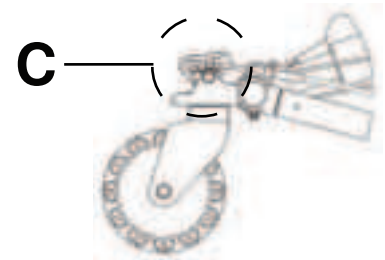

Figure 13 – Wheel lock and Steer-Lock off
To release a wheel lock or **Steer-Lock** (C), press down on the top of the pedal with your foot or lift up on the pedal with your toe. The top of the pedal will rest against the caster frame when you release the wheel lock or **Steer-Lock** (Figure 13).